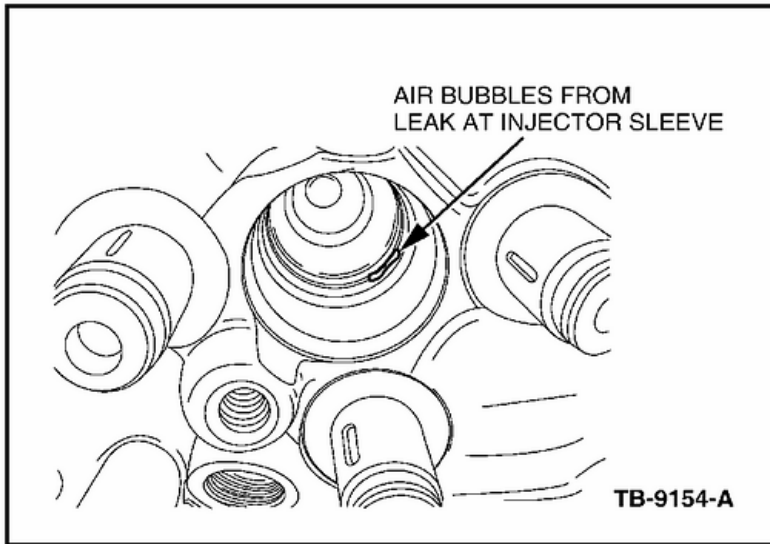
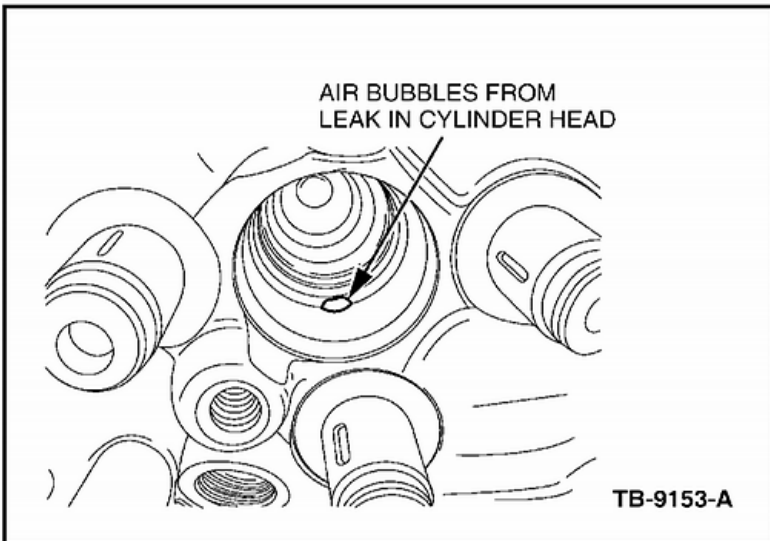
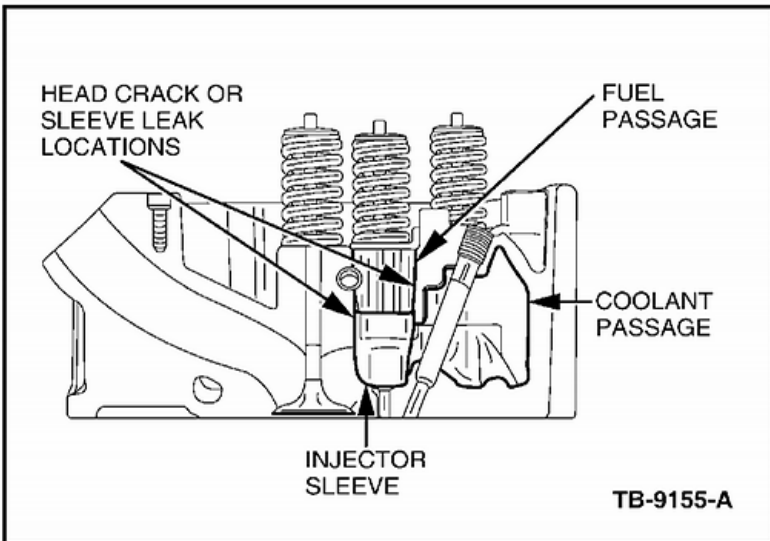

Figure 1
Figure 2
Figure 3
6. Inspect each injector bore for bubbles. (A light and mirror or bore-scope may aid in pinpointing a leak location.) If bubbles are observed, determine if bubbles originate from the injector sleeve lip (Figure 1) or cylinder head casting. (Figure 2) Refer to cutaway view of the cylinder head. (Figure 3)